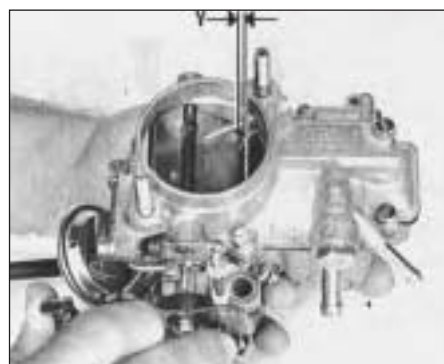

Fig. 3.15 Choke valve gap opening (Weber 32 ICEV 50/250) (Sec 9)
14 There should be a gap (Y) (Fig. 3.15) between the edge of the choke valve plate and the wall of the carburetor throat of between 3.75 and 4.25 mm (0.148 and 0.167 in). Any adjustment that may be needed should be carried out by bending the link rod.